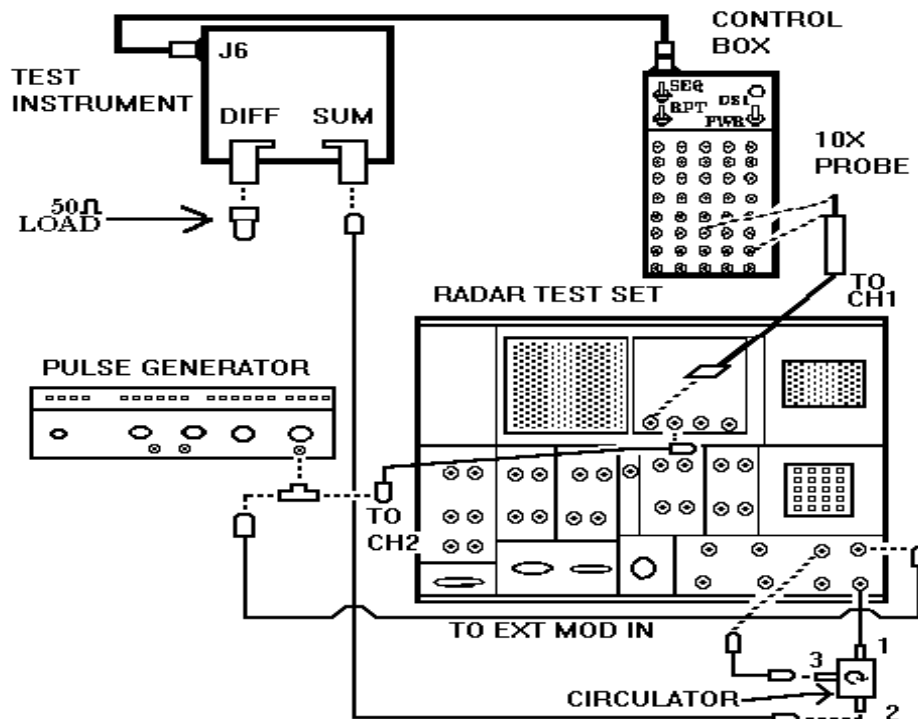

Figure 11. Receiver sensitivity - equipment setup.
(1) Connect equipment as shown in figure 11.
- (1) Connect equipment as shown in figure 11.
- (2) Position pulse generator controls as listed in (a) through (c) below:
- (3) Set radar test set **GENERAL MENUS** menus as listed in (a) through (d) below.